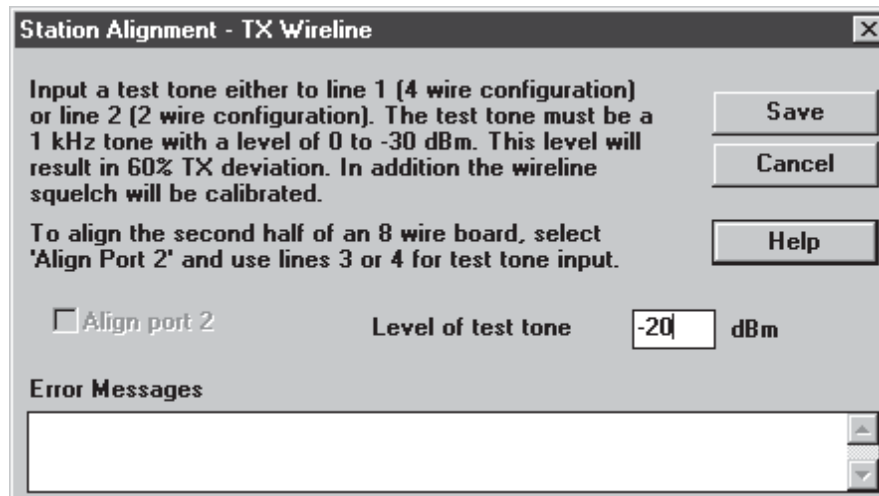

Fig. 10
4. After you click **TX Wireline** a window as shown in Fig. 10 will appear. With the Transmission Test Set in the generate mode, type  $-20$  in the box for the **Level of test tone** and click on **Save**. The station will immediately auto-calibrate, temporarily store the value and then return you to the **Station Alignment** window.